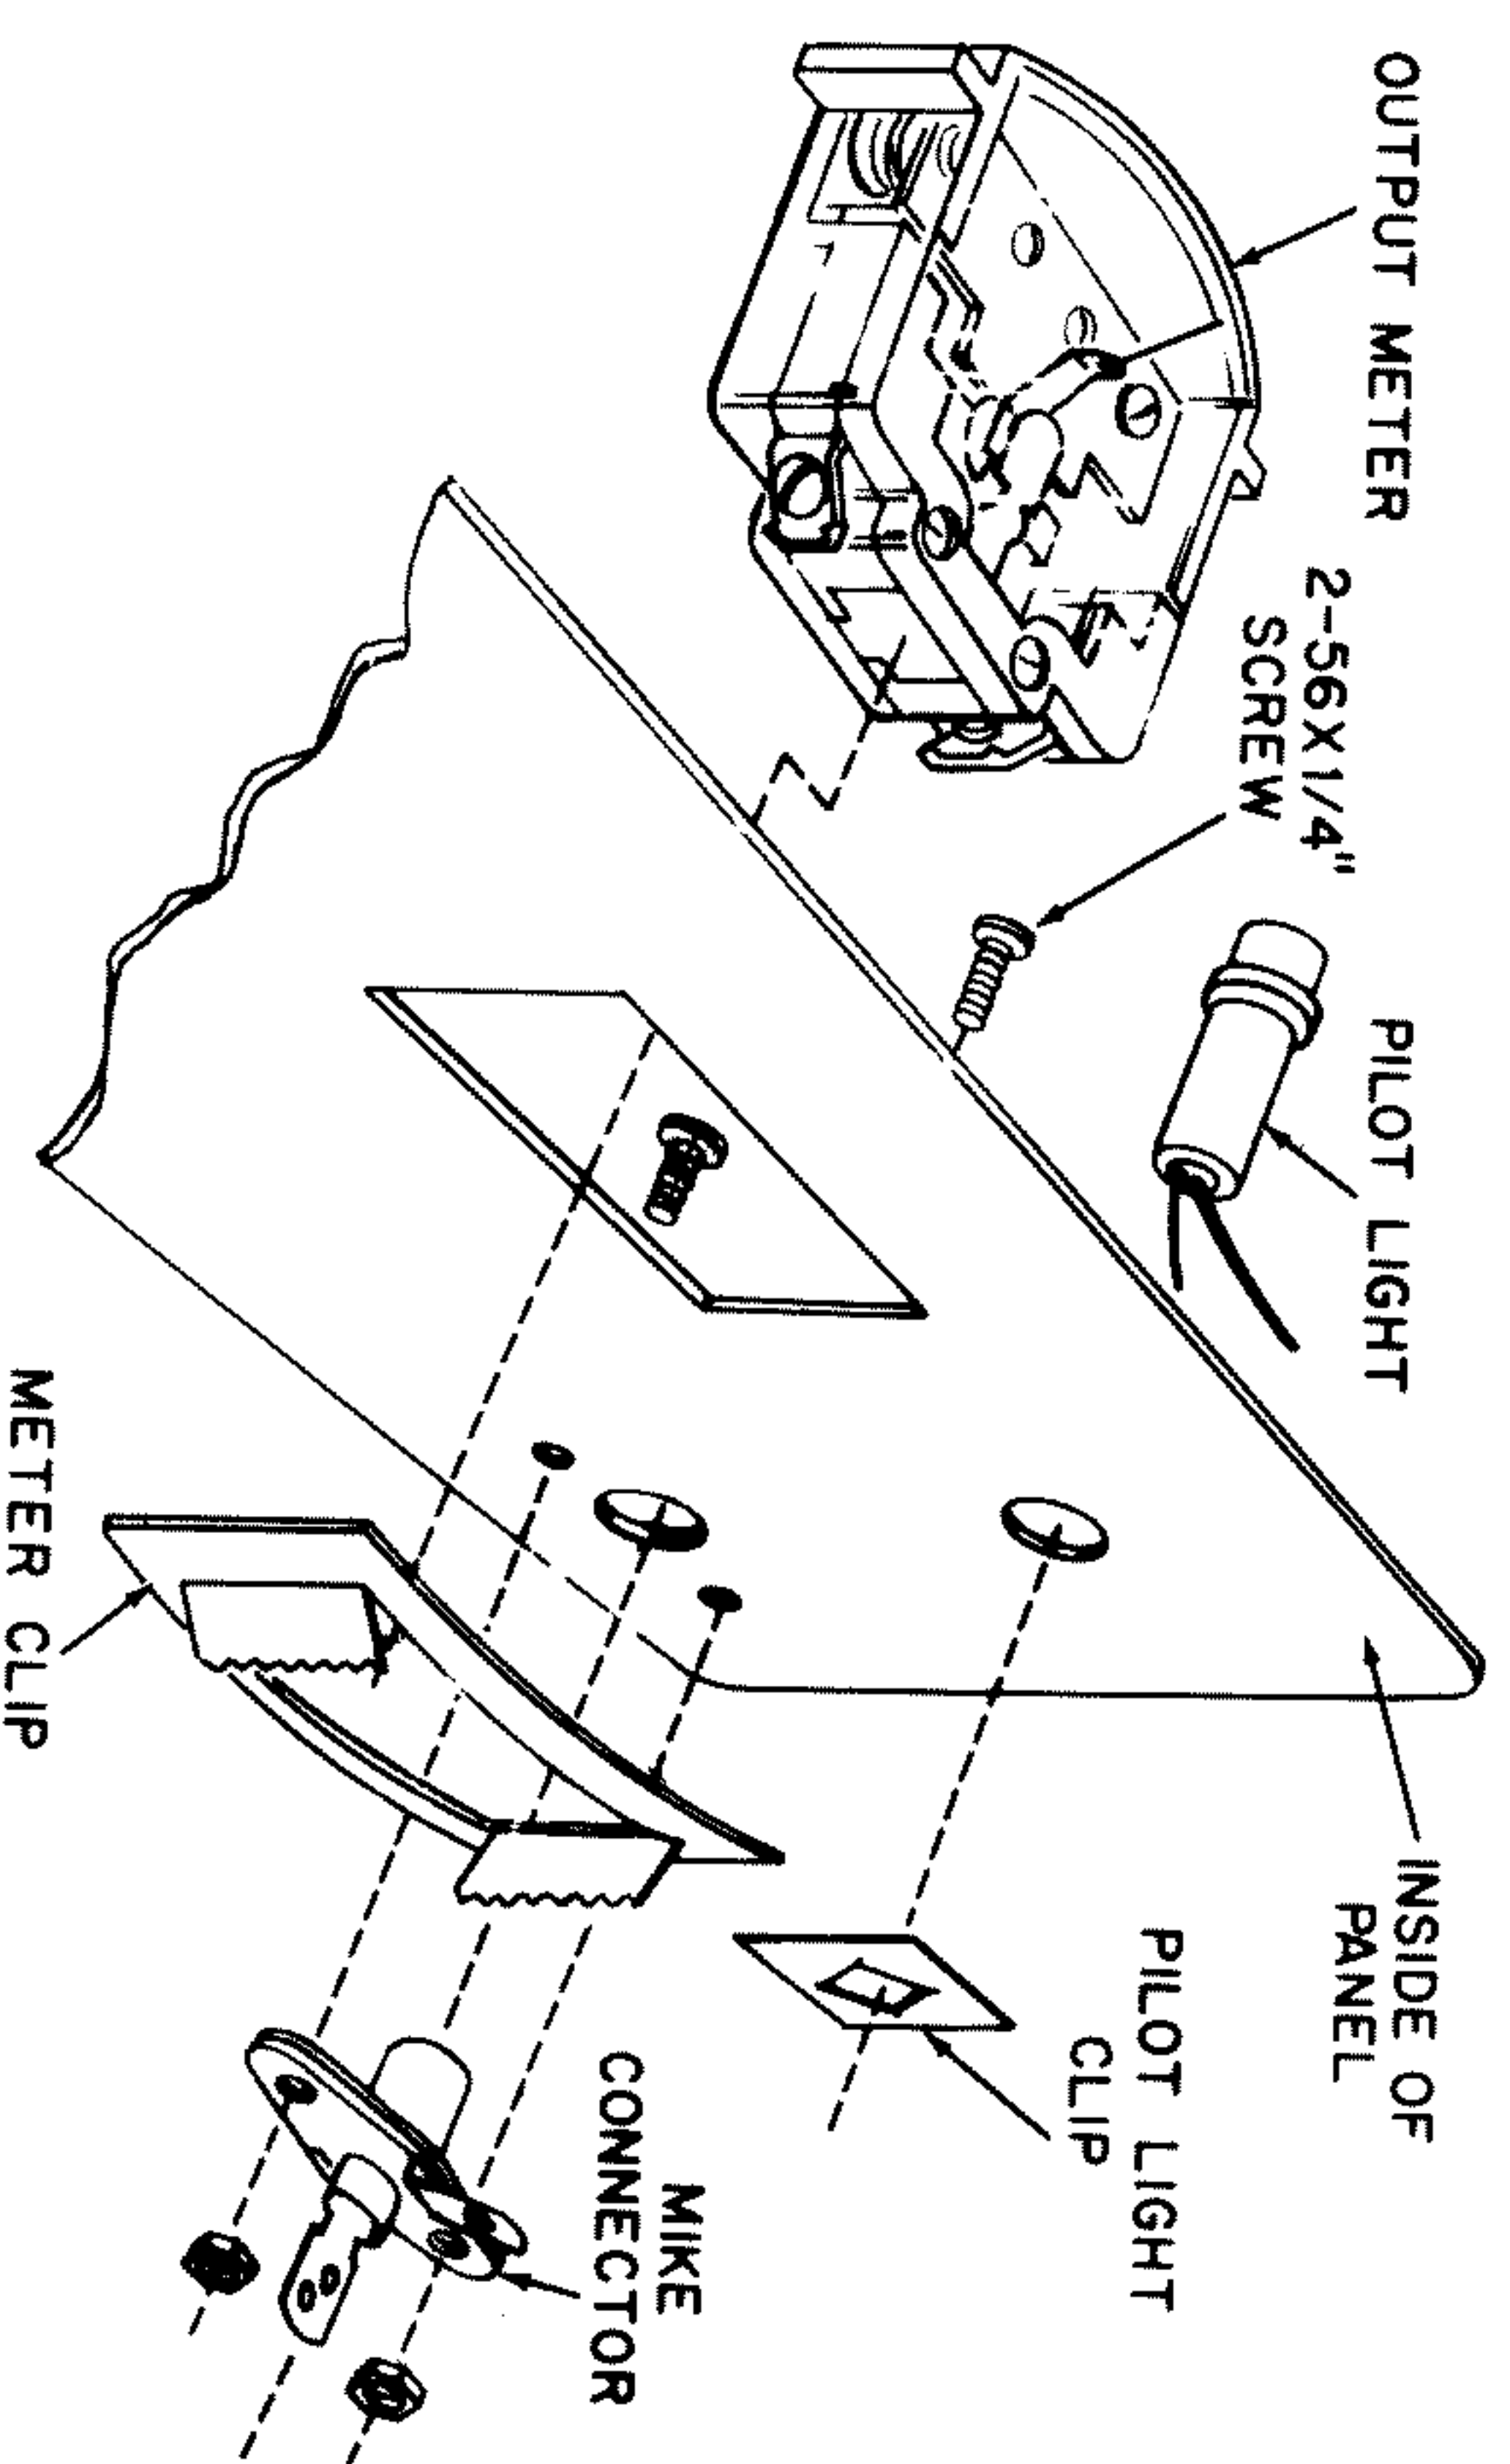

FIGURE 16
SEE FIGURE 16
- ✓ ☐ Power output meter. See Figure 16. Insert meter through hole on front side of front panel. Take rectangular mounting clip and slip over meter body from backside of panel, make sure the meter is in correct position. Do not mount meter upside down. Place meter face on soft surface and push clip down with fingers until meter is secure.
- ✓ ☐ Red, flat-faced pilot light. See Figure 16. Insert light through hole on front side of front panel. Slip small square mounting clip over the light body. Place face of light on soft surface, and push clip down with screwdriver till light is secure.